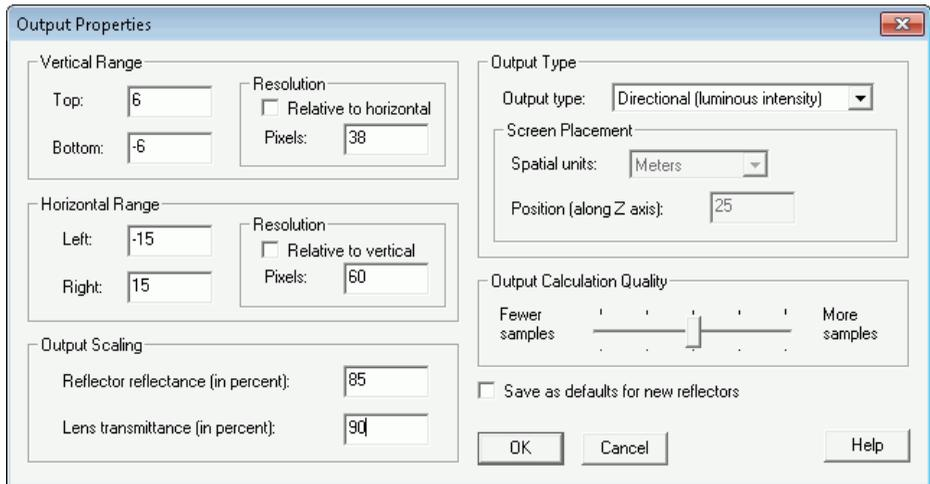

Figure 1.8 Setting output properties
- Click **Output, Properties** (or click ) , complete the dialog box as shown in Figure 1.8, and click **OK**.